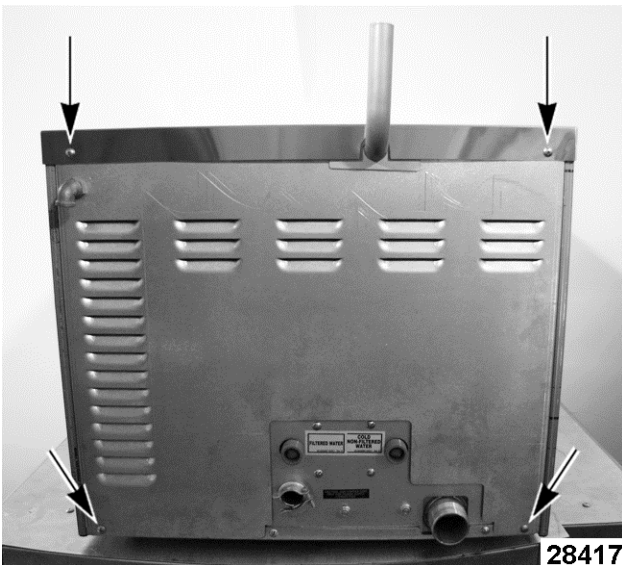

Fig. 6
1. Remove screws Fig. 6 (qty. 4) securing the top cover to rear panel and the rear panel to steamer frame.